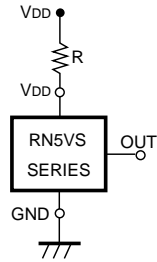

FIG. 9
1. When RN5VS××C (CMOS Output) is used in FIG. 9, this IC may oscillate by the through-type current at the detection when impedance is connected between Power Source V_{DD} and RN5VS V_{DD} Pin. When RN5VS××A (Nch Open Drain Output) is used in FIG. 9, and R becomes excessively large, Detector Threshold may be varied because of the voltage drop of the supply current in the IC itself.